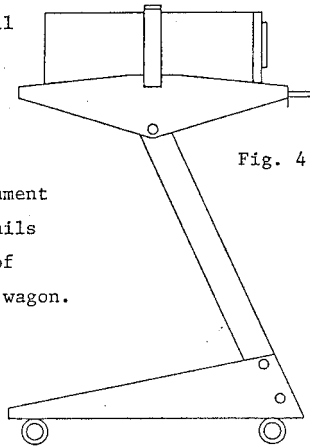

Fig. 4
- 4. Tighten belt securely around instrument as shown in Fig. 4. Insure feet rails are properly adjusted to the feet of the instrument intended for use on wagon.